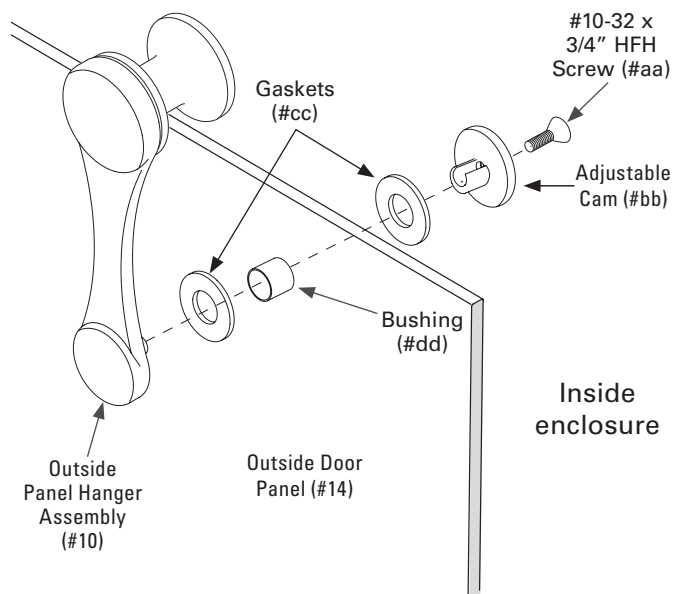

Figure 14
2. Place a Gasket over the end of one Adjustable Cam and insert the Cam through the hole (See **Figure 14**).
3. Place another Gasket on the Outside Panel Hanger Bracket and attach the Outside Panel Hanger Bracket to the Adjustable Cam through the Outside Door Panel (See **Figure 14**).